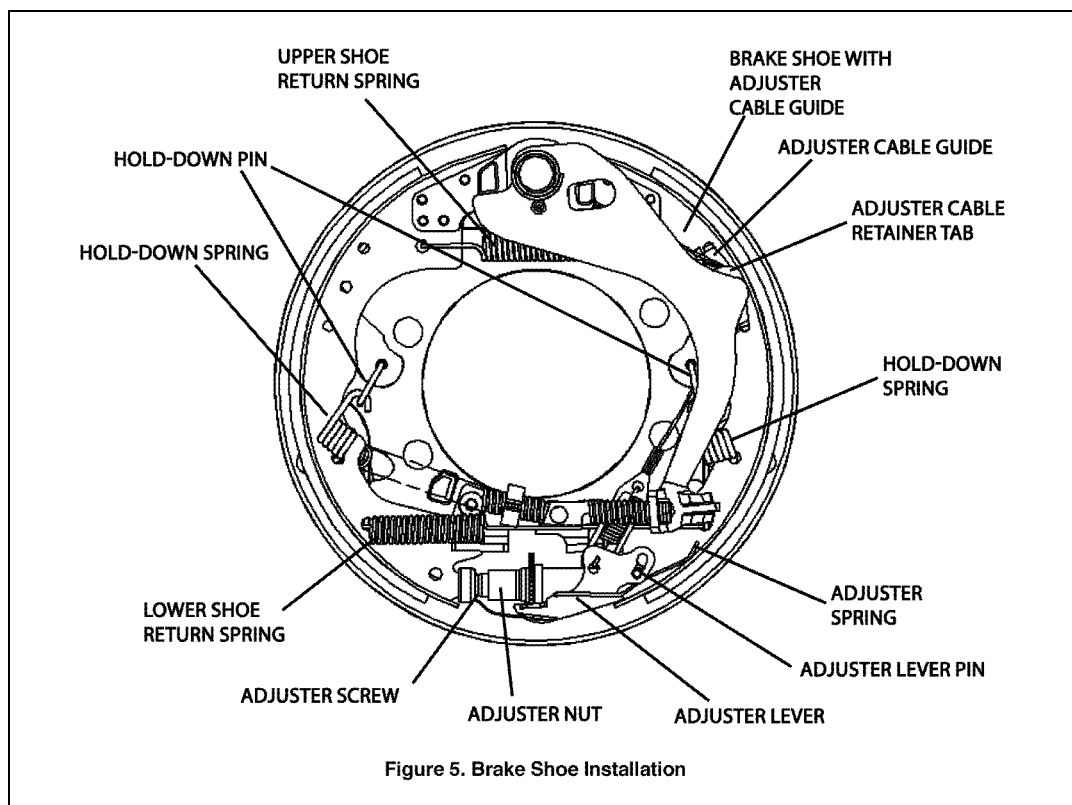

Figure 5. Brake Shoe Installation
- **When installing new shoes, make sure the shoe with the adjuster cable guide and adjuster lever pin is installed on the correct side of the shoe. See Figure 5.**
For Steps (5) through (10), proper orientation of the various springs, including their hook-ends must be maintained, as shown in Figure 5, for proper brake function.
- (6) Position the second shoe and the adjuster nut and screw assembly as shown in Figure 5. The adjuster nut (internally threaded) should be seated against the shoe with the adjuster cable guide and pin. Reattach shoe hold-down spring to shoe hold-down pin using the brake spring tool as shown in Figure 3.
- (7) Install both shoe-return springs as shown in Figure 5.
- (8) Install the adjuster spring and the adjuster lever. Ensure that the adjuster lever is properly seated against the starwheel as shown in Figure 5.
- (9) If the lever has been removed, reinstall lever and associated components per the ANCHOR SCREW, LEVER, AND CAM REPLACEMENT section in the manual.